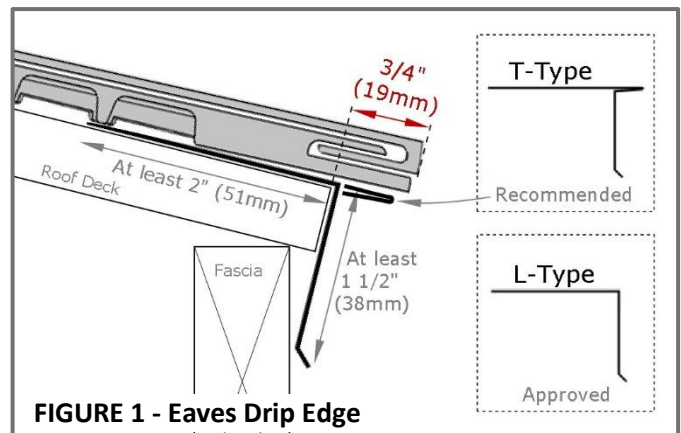

FIGURE 1 - Eaves Drip Edge
- **EAVES** - Install L-Type or T-Type drip edge. Drip edge must extend a minimum of **2" (51mm)** back from the roof edge, bend downwards over the fascia at least **1 1/2" (38mm)**, and kick out to direct water away from the fascia board. See **Figure 1**. F-WAVE recommends T-Type drip edge extending out from the eaves **1/2" (13mm)**. Apply underlayment over drip edge metal at eaves.
- Install either a **T-Type** or an **L-Type** drip edge at the eaves. Starter must overhang the eaves edge by **3/4" (19mm)**. See **Figure 1**.